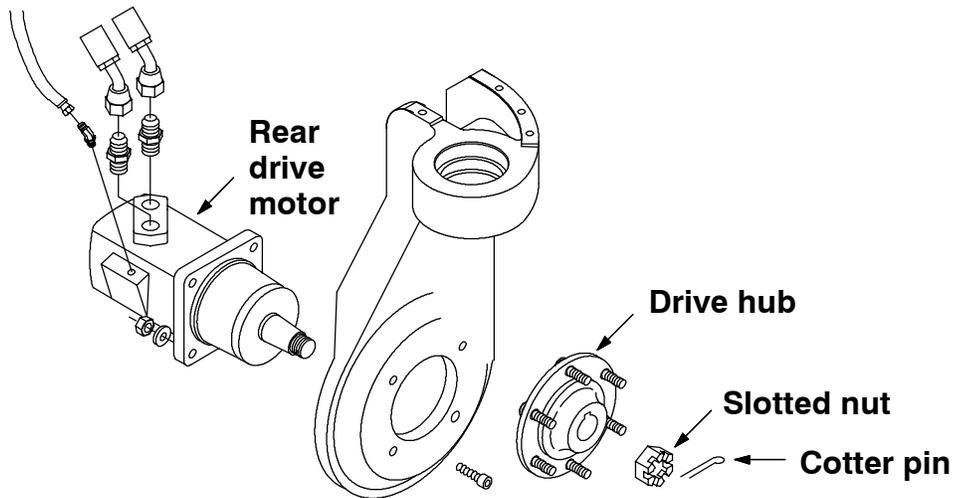

FIG. 8 - Drive Motor And Hub Assembly
18. Remove the cotter pin and slotted nut from the hydraulic drive motor. (Refer to FIG. 8)
19. Remove the drive hub from the drive motor. A wheel puller will need to be used to break the hub free from the motor shaft. (Refer to FIG. 8)
20. Remove the four screws holding the drive motor to the rear wheel support. Remove the drive motor. (Refer to FIG. 8)
21. Position the drive motor on the new rear wheel support (2) in the same orientation as it was removed. (Refer to FIG. 8)
22. Install the four socket-head screws and nyloc nuts. Torque nuts to 120 - 157 Nm (89 - 116 ft lb). (Refer to FIG. 8)
23. Place the drive hub on the tapered motor shaft. Tighten slotted nut to 270 - 340 Nm (200 - 250 ft lb). Install the cotter pin. (Refer to FIG. 8)